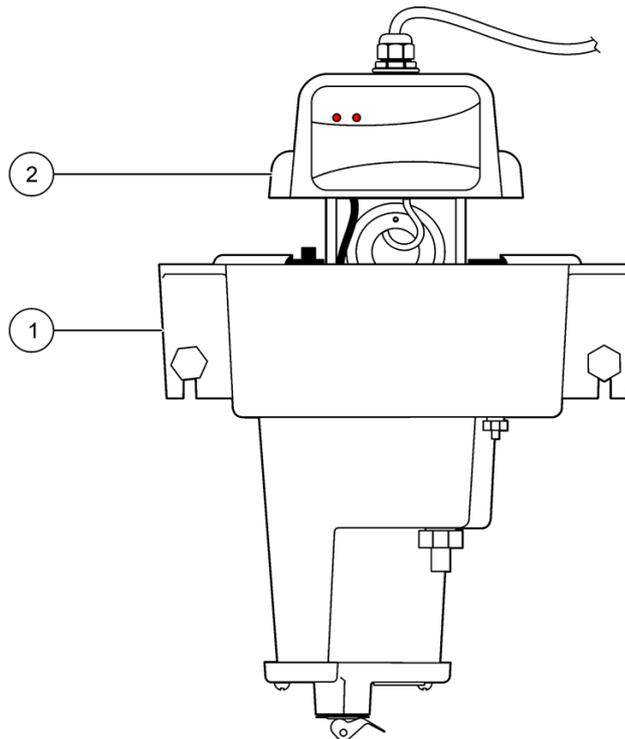

Figure 1 Remove turbidimeter head
3. Remove the turbidimeter head. Refer to Figure 1 on page 3.